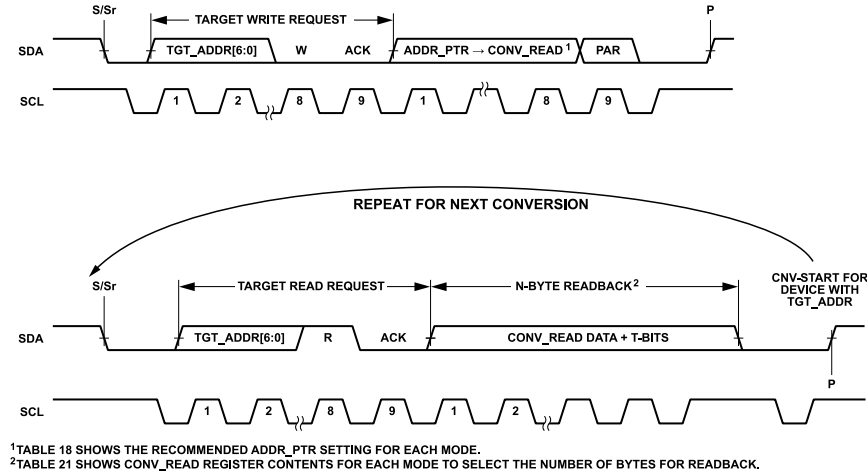

Figure 63. Triggering ADC Conversions Using CONV\_READ
To trigger ADC conversions using the CONV\_READ register, update the ADDR\_PTR to point to any of the register addresses of the CONV\_READ register (from 0x50 to 0x53). Then, perform a dummy I3C read from the AD4060 and issue a repeated start (Sr) followed by a stop (P) at the end of the data phase. The SDA rising edge of the stop (P) triggers an ADC convert-start as shown in Figure 63. In sample mode, the convert-start trigger results in a single conversion. In burst averaging mode, the convert-start trigger results in a burst of multiple conversions which are used to generate a single averaged result (see the Modes of Operation section).